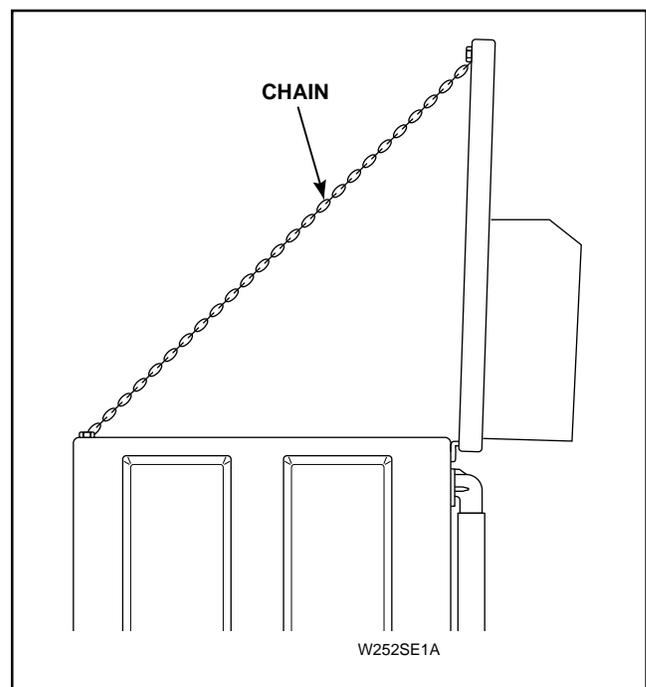

Figure 22
**NOTE:** Cabinet top is self supporting, however, a small chain may be used for additional support, *Figure 22*.